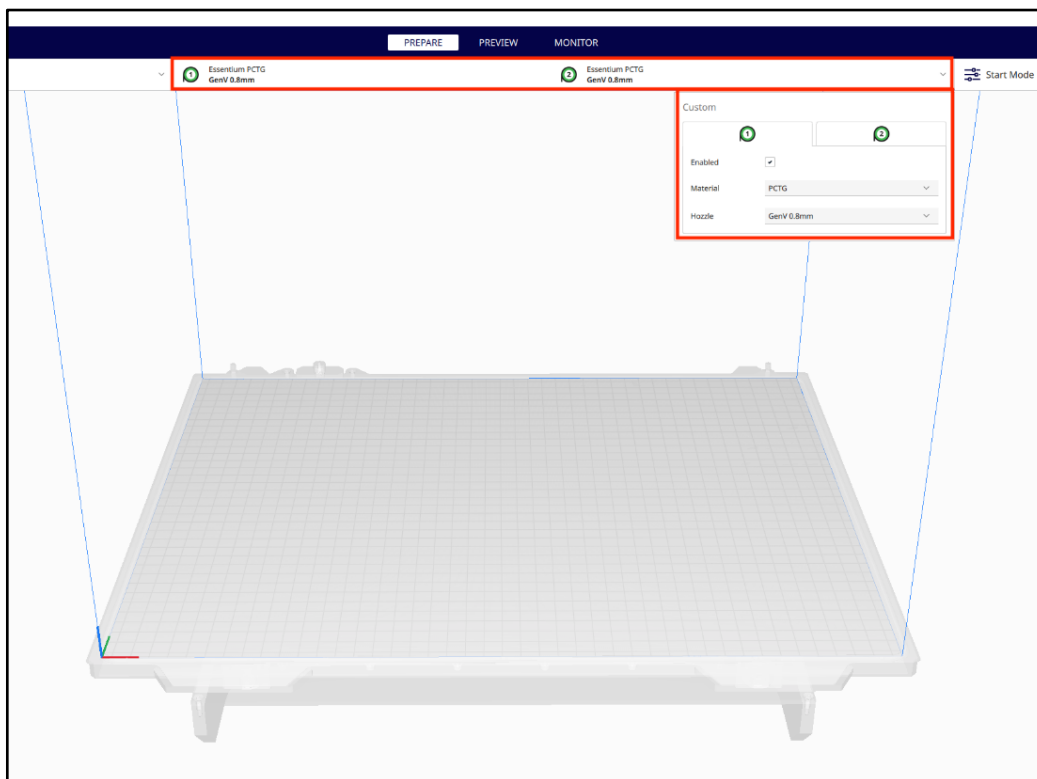

Figure 29: Selecting Material and Hotend/Nozzle
20. Select the desired material and hotend/nozzle (See Figure 29).